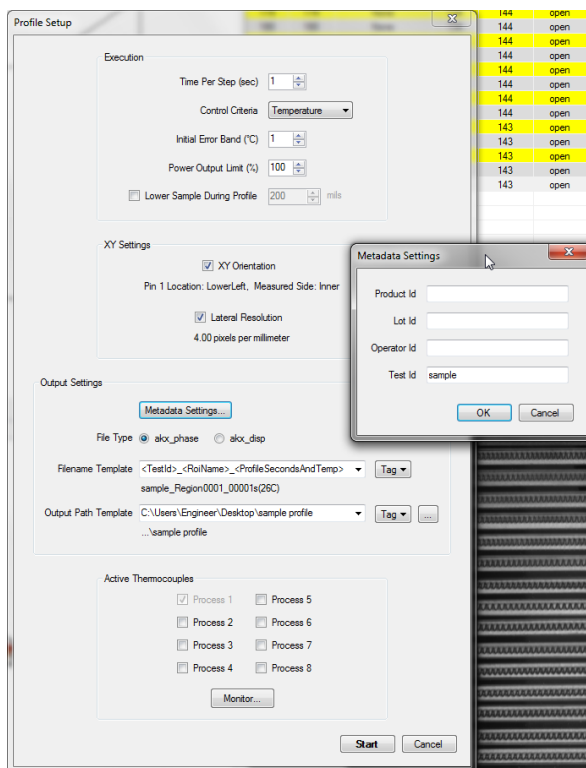

Figure 2.20 Profile Setup Dialog
At the very bottom of this window the current Output Path is listed. This is the directory where all the displayed results are stored. It can be changed at the start of a profile in the Profile Setup Window (see **Figure 2.20**).
The user can open the Thermocouple Monitor from this menu. This allows the user to quickly see all thermocouple temperatures for setup purposes. This tool can also be opened from the Monitor... button in the Profile Setup dialog (see **Figure 2.20**).
The Profile Setup dialog is accessed by right-clicking on either the Profile Graph (Figure 2.2) or Table Panes (Figure 2.5) and choosing **Start**. This dialog is shown in Figure 2.20 and with it the user can set up the parameters for a profile run. This dialog has four major sections: Execution, XY Settings, Output Settings, and Active Thermocouples.
- **Output Path Template** – Allows the user to choose a folder in which to save the profile results. The user can either select an existing folder with the ‘...’ button or use a similar metadata tagging system to the Filename Template to create new folders tagged with any of the metadata labels shown in **Figure 2.20**. The arrow at the end of the template entry box allows the user to select from a list of recent file paths. The current full file path is listed below the template entry box.
<LotId>	User defined in the Metadata settings dialog (Figure 2.20)
<TestId>	User defined in the Metadata settings dialog (Figure 2.20)
<OperatorId>	User defined in the Metadata settings dialog (Figure 2.20)
<ProductId>	User defined in the Metadata settings dialog (Figure 2.20)